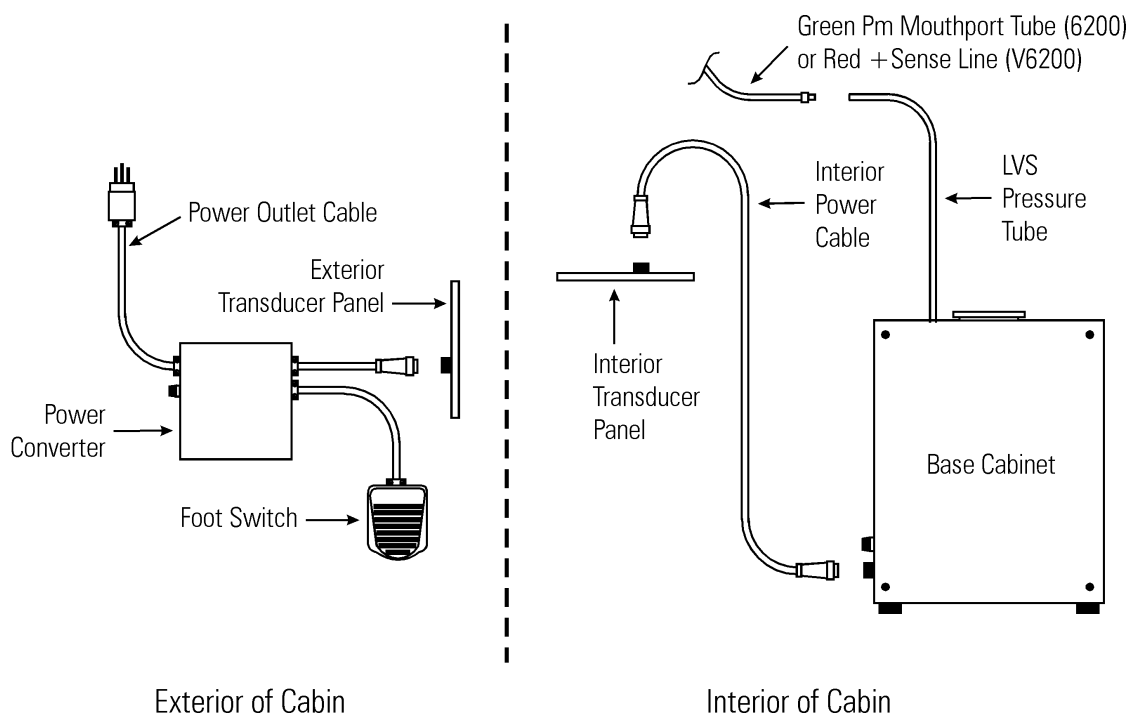

Figure 3-2 Lung volume standard setup components
1. Place the IVC box inside the cabin on the floor, and attach the power cables as shown in Figure 3-2, Lung volume standard setup components.